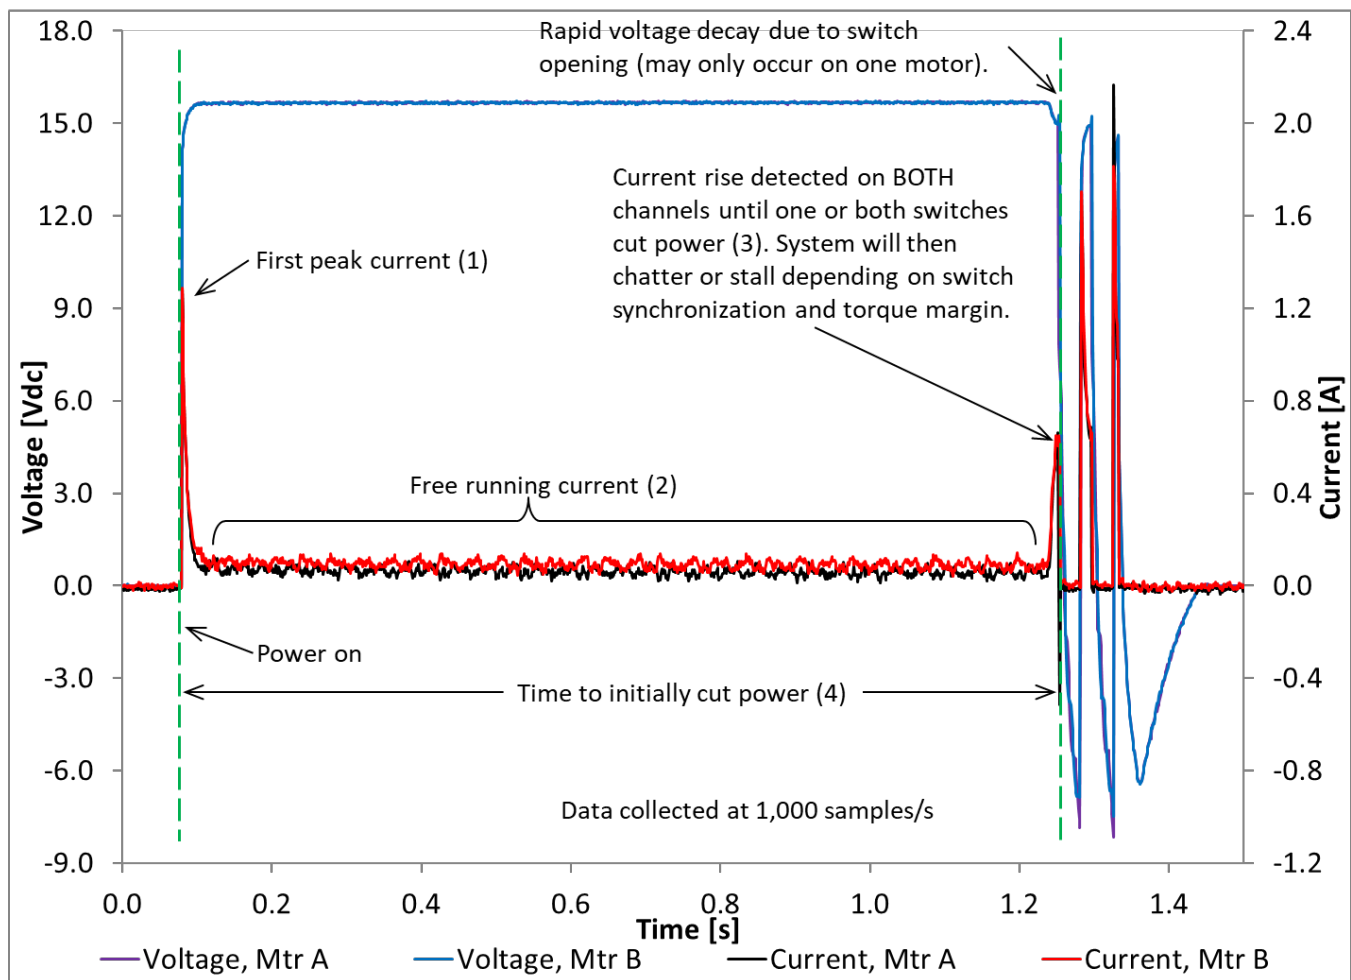

Figure 10-4: Example Set-For-Flight voltage and current profiles at NTP
10.3.4	<p>To Set-For-Flight the Lightband:</p> <ol style="list-style-type: none"> 1. See Figure 10-4 and Table 10-1 for the anticipated current draw and power duration. 2. Designate a person to watch the power source output display. 3. Turn on the power source output. 4. Verify the oscilloscope trigger is active and ready to acquire data. 5. Activate the timer relay. This will send power to the motors and Set-For-Flight the Lightband. The drivetrain will free run for ~1.1 s and then the Sliding Tube will move off the Stow limit switches. This will be apparent via one or more of the following <ol style="list-style-type: none"> a) the current spikes b) the Sliding Tube begins to rapidly move off and on the Motor Bracket c) an audible chatter emanates from the Motor Bracket Assembly (the chatter is the electro-mechanical natural frequency of the Motor Bracket Assembly) <p>Manually cut power if the current limit is reached or the timer relay runs longer than specified. Then contact PSC per section 5. A visual inspection of the Lightband may be performed, but do not change configuration.</p> <p>Caution: See note 1 below.</p>
10.3.8	<p>Figure 10-4 shows example Set-For-Flight voltage and current profiles. Complete Table 10-1 to verify all parameters are within tolerance. Single data point exceedances are acceptable. Also, a slow sample rate may alias data. Do not filter data. Contact PSC if a discrepancy is found.</p> <p>Remember to account for non-zero offsets in the voltage or current measurements.</p>